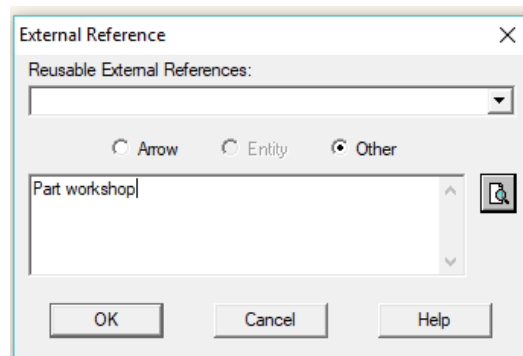

Fig. 5.8. The *External Reference* dialog box
2. Name the external references as “Raw material warehouse” and “Component manufacturing shop” in the **External Reference** dialog box (fig 5.8) and click OK.